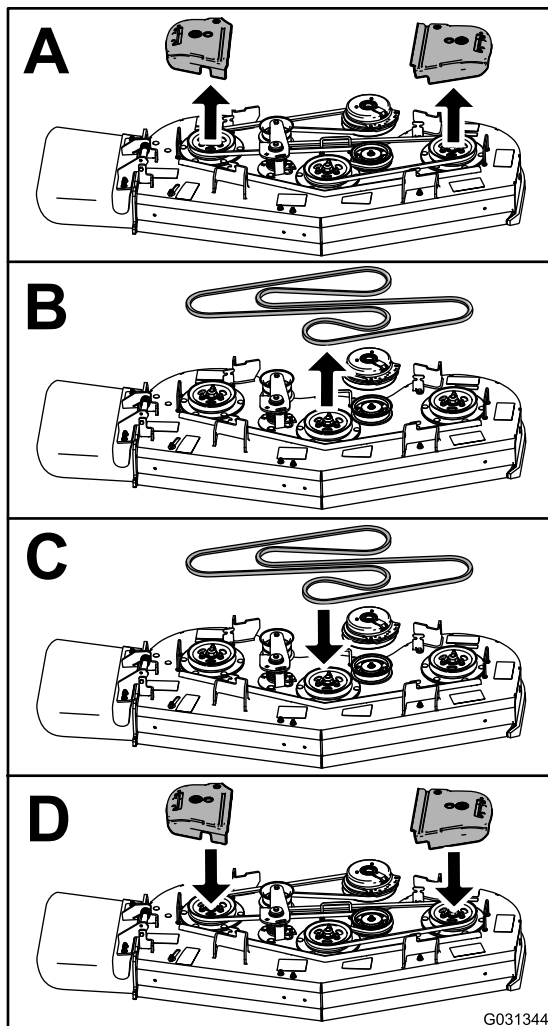

Figure 69
3. Replace the belt as shown in Figure 69.